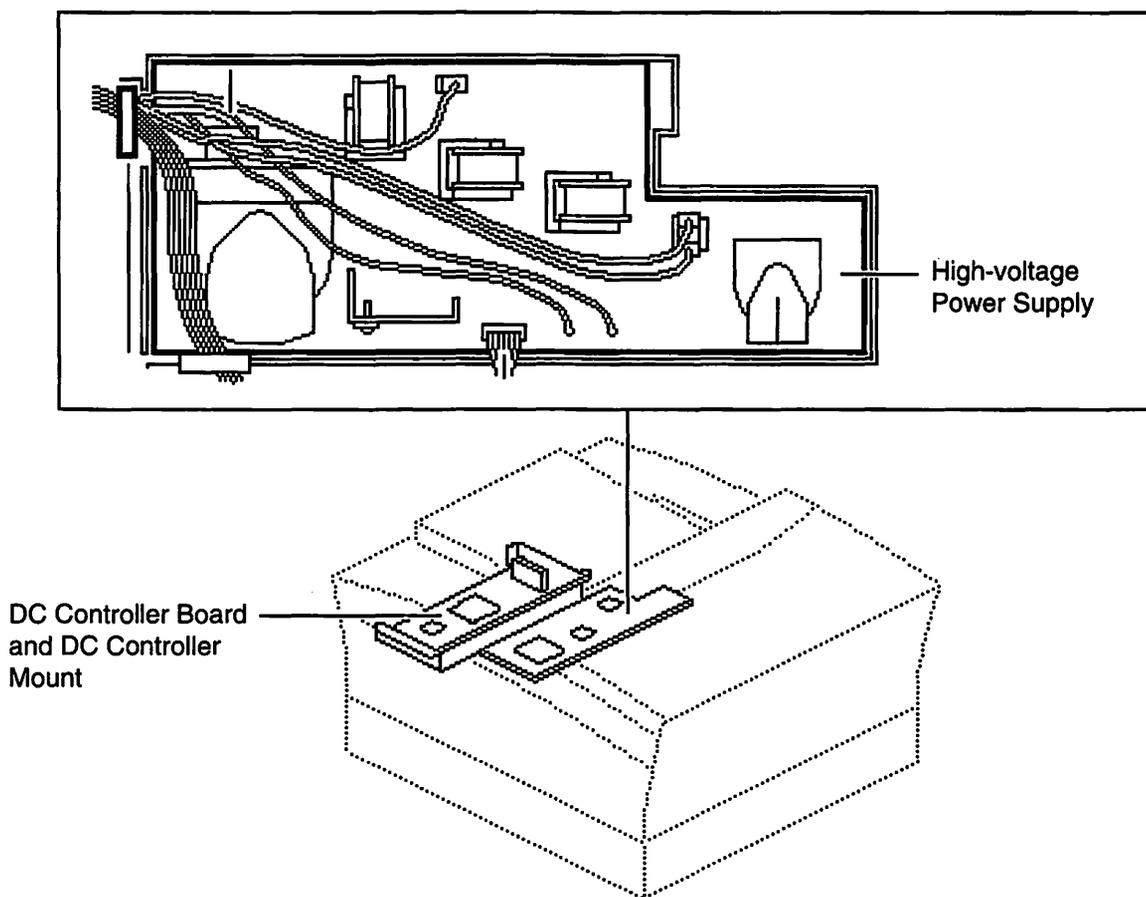

Figure 1-14
- The high-voltage power supply (see Figure 1-14) supplies high voltage to the toner cartridge and to the transfer roller. The high-voltage power supply is located next to the DC controller board and DC controller mount. The I/O shield and mount must be removed to see the high-voltage power supply. For a detailed list of the cable connectors, refer to the **Circuit Board Diagrams** section of the "Troubleshooting" chapter in the LaserWriter Select manual on *Apple Service Source*.